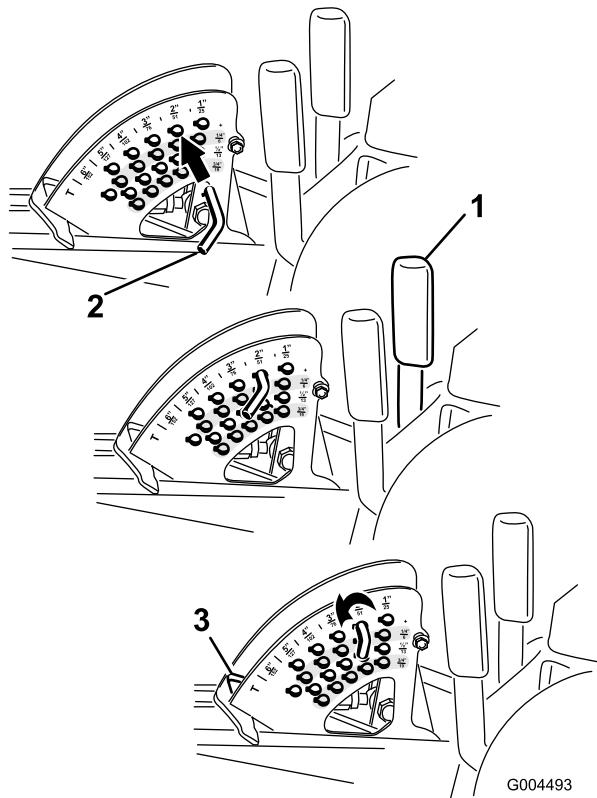

Figure 23
Note: To lock the mower deck in a raised position, raise the deck past the 6 inch (15 cm) position, remove the height of cut stop pin (refer to Adjusting the Height-of-Cut), and place the pin in the 6 inch (15 cm) height-of-cut position (Figure 23).
1. With the engine running, pull back on the deck lift lever until the mower deck is fully raised and **release the lever immediately** (Figure 23).
2. To adjust, rotate the stop pin until the roll pin in it lines up with the slots in the holes in the height-of-cut bracket and remove it (Figure 23).
3. Select a hole in the height-of-cut bracket corresponding to the height-of-cut desired, insert the pin, and rotate it down to lock it in place (Figure 23).
Note: There are four rows of hole positions (Figure 23). The top row gives you the height of cut listed above the pin. The second row down gives you the height listed plus 1/4 inch (6 mm). The third row down gives you the height listed plus 1/2 inch (12 mm). The bottom row gives you the height listed plus 3/4 inch (18 mm). For the 6 inch (15.8 cm) position there is only one hole, located in the second row. This does not add 1/4 inch (6 mm) to the 6 inch (15.8 cm) position.